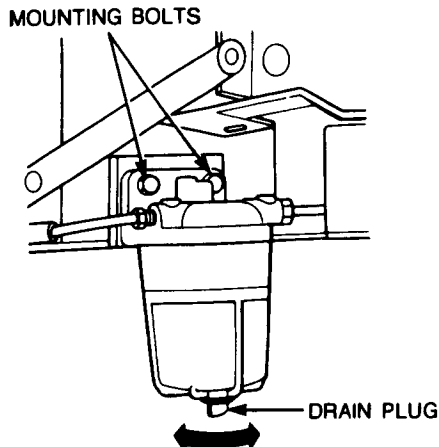

Figure 3-12 Fuel sedimenters
**339.** Two fuel sedimenters, are located on the cabin rear crossmember forward of the rear spring mounting. A drain plug is fitted to allow the contents to be drained (see Fig. 3-12). Bleed the fuel system as detailed in Chapter 3 Section 1.